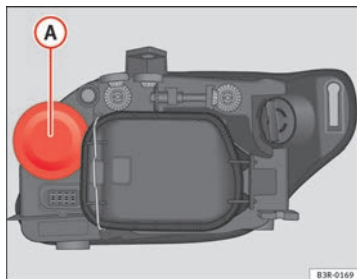

Fig. 204 Turn signal
- Pull the rubber cap ⇒ fig. 204 to remove it.